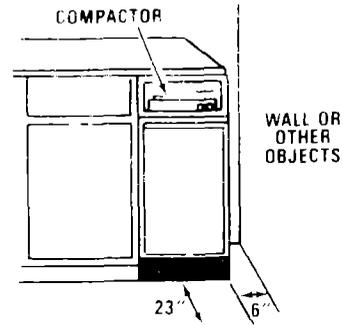

FIGURE 7
5. Your compactor is designed for recessed installation. A six (6) inch clearance from the right edge of the drawer front is desirable for added convenience in bag removal. Also allow twenty-three (23) inches in front of the appliance for drawer removal. See Figure 7.